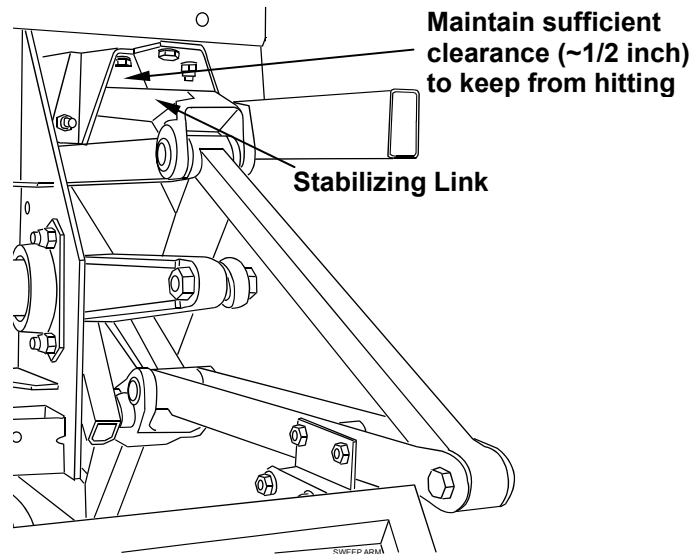

**Figure 4.2-24**
- a. Adjust the short connecting rod (see Figure 4.2-24) to obtain a starting length of 10-1/8 inches center to center between the rod end openings. Tighten the jam nuts.